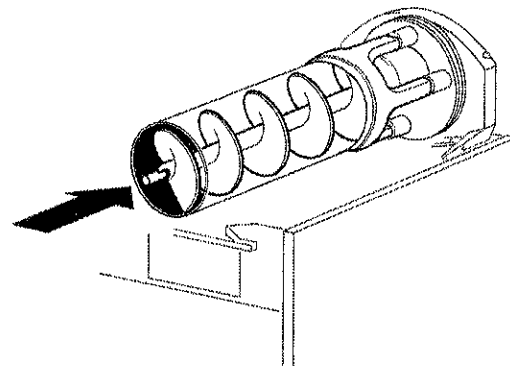

figure 13
- 5 - Insert the auger into the evaporator taking care to accompany it to the end so as to prevent it from hitting against the rear wall (see figure 13).